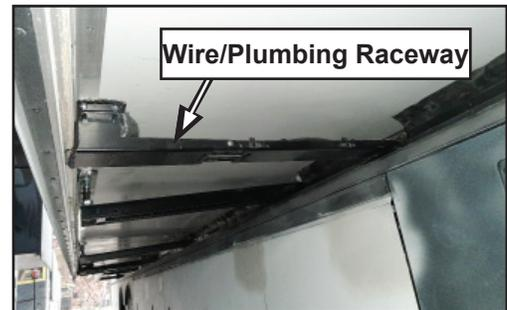

Figure 1
5. Locate the doorside metal wire/plumbing raceway that runs from the main body of the coach to the slideout box and open the compartment door located directly below it. See Figure 1.
Locate the roadside metal wire/plumbing raceway that runs from the main body of the coach to the slideout box and open the compartment door located directly below it. See Figure 1.